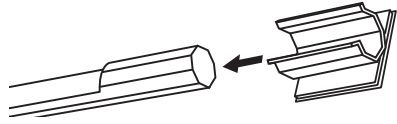

Figure 2. Attach mounting brackets to lamp ends.
- Determine the best location for the UV lamp brackets and clean the area. Slide the mounting brackets onto the ends of UV lamps. (Figure 2.)